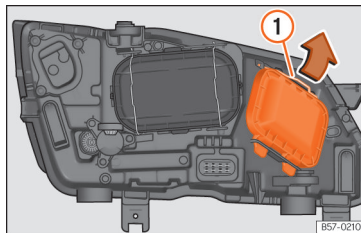

Fig. 110 In the engine compartment: remove the lid.
2. Move the loop » **Fig. 110** ① in the direction of the arrow and remove the cover.
2. Move the loop »» Fig. 110 ① in the direction of the arrow and remove the cover.